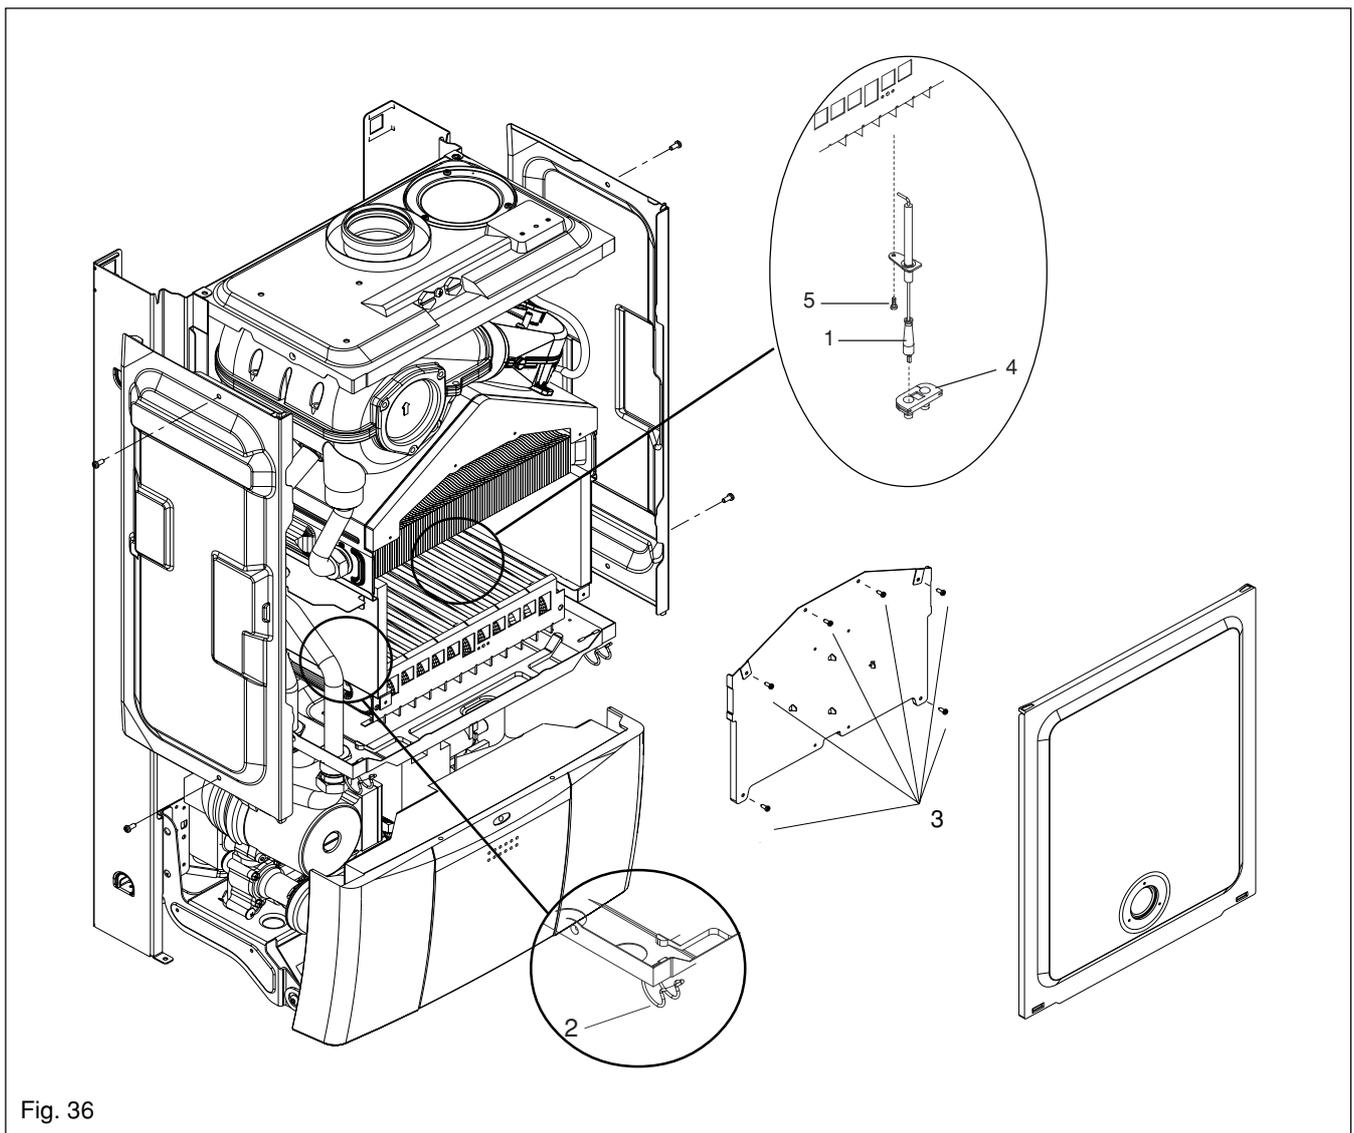

Fig. 36
6.16 FLUE FAN (see fig. 36 & 38)